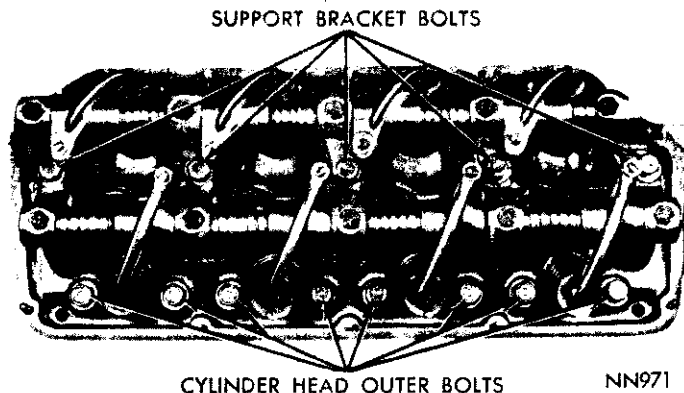
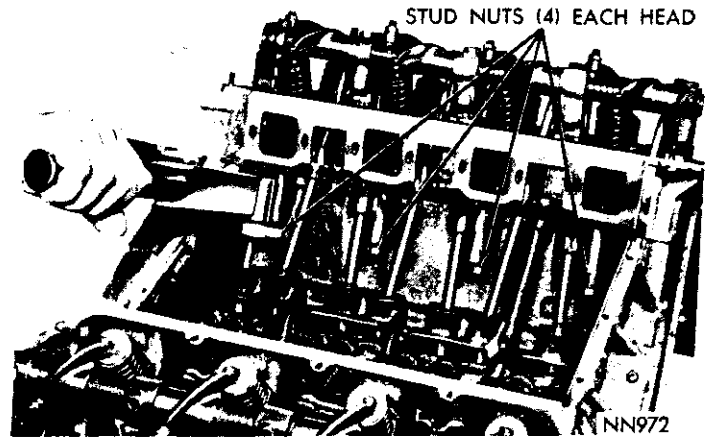
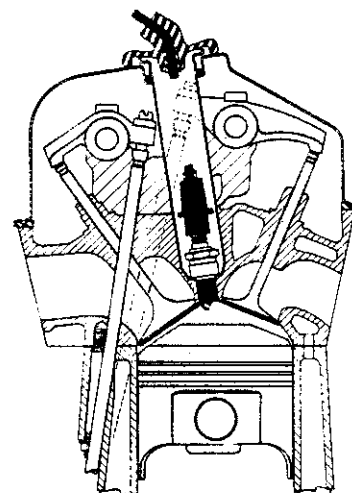

Fig. 3—Cylinder Head Attaching Bolts
Fig. 4—Removing or Installing Cylinder Head Stud Nuts
Fig. 5—Hemi 426 Engine Combustion Cross Section
Each chrome alloy cast iron cylinder head is held in place by 13 bolts (Fig. 3) and 5 studs, nuts and washers (Fig. 4). The stud nuts are tightened from inside of the tappet chamber. Aluminum spark plug tubes (shown in cross section in Figure 5) serves as spark plug gaskets. The tubes project through the cylinder head cover and are sealed against oil leaks.
- (1) With cylinder head cover removed, remove the five bolts, (3/4 inch hexagon) that attach the rocker arm support brackets to the cylinder head and block (Fig. 3).
- (2) Remove rocker arm assemblies.
- (3) Remove push rods and identify to insure installation in original location.
- (1) With cylinder head cover and rocker arm assemblies removed, remove alternator, disconnect accelerator cable and transmission throttle rod from upper bellcrank. Drain cooling system.
- (2) Disconnect fuel line at tee fitting.
- (3) Disconnect intake manifold heat tubes located at rear of manifold. Remove air tube between automatic choke and exhaust manifold.
- (4) Remove the intake manifold attaching screws. (There are three locating dowels at each end of manifold.)
- (5) Remove intake manifold with ignition coil, both carburetors, fuel lines, fuel filters, throttle linkage and upper bellcrank as an assembly.
- (6) Disconnect exhaust headers from cylinder heads and tie out of way.
- (7) Remove the lower eight cylinder head bolts (Fig. 3).
- (8) Remove the four stud nuts, (9/16 inch hexagon) from cylinder head studs inside of tappet chamber (Fig. 4).
- (9) Remove cylinder heads and place in holding fixture tool C-3626. To protect studs do not set cylinder head down on studs at any time.